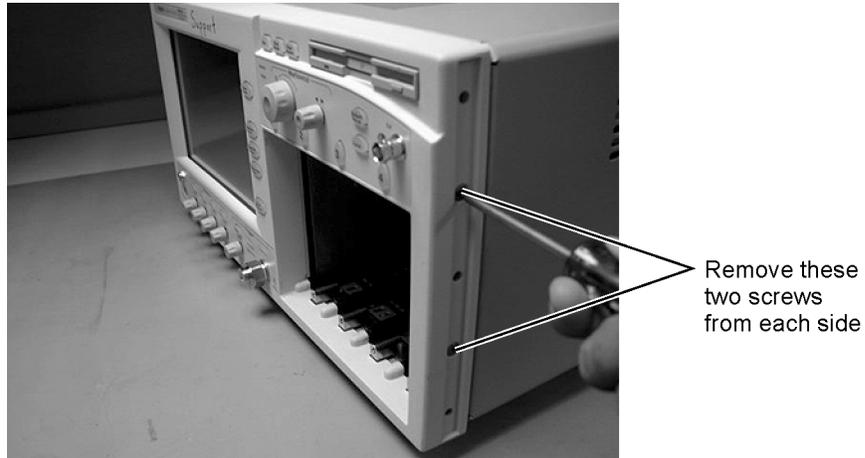

Figure 4-32. Remove the Front Panel Screws
- 3 Use the T-15 TORX driver to remove the four screws (two on each side) that secure the front panel to the mainframe, as shown in Figure 4-32.